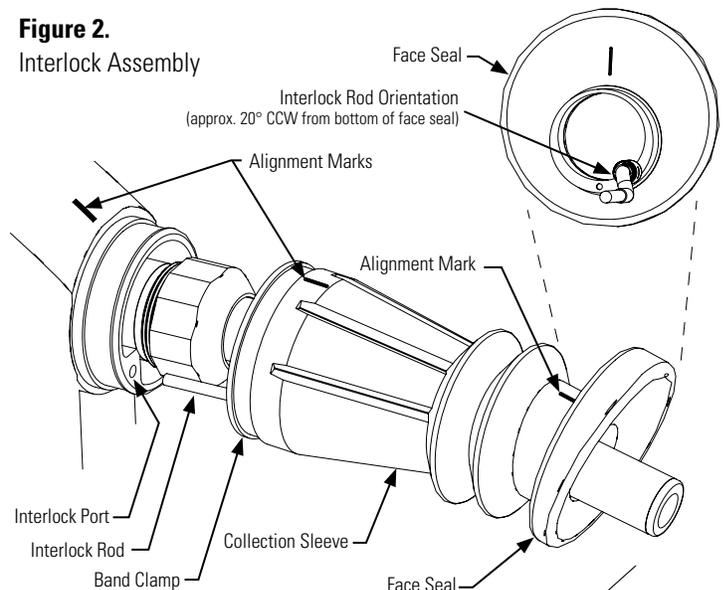

Figure 3.
2. Loosen spout nut with smooth-jaw wrench. (See Figure 3)
(See Figure 3)